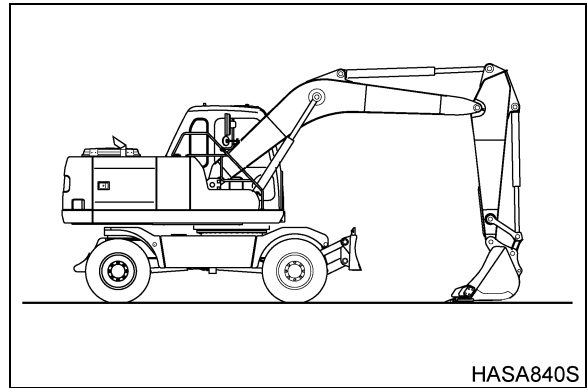

Figure 3
2. Park on firm and level ground and swing turntable to approximately a 180° with respect to wheels. See Figure 3.